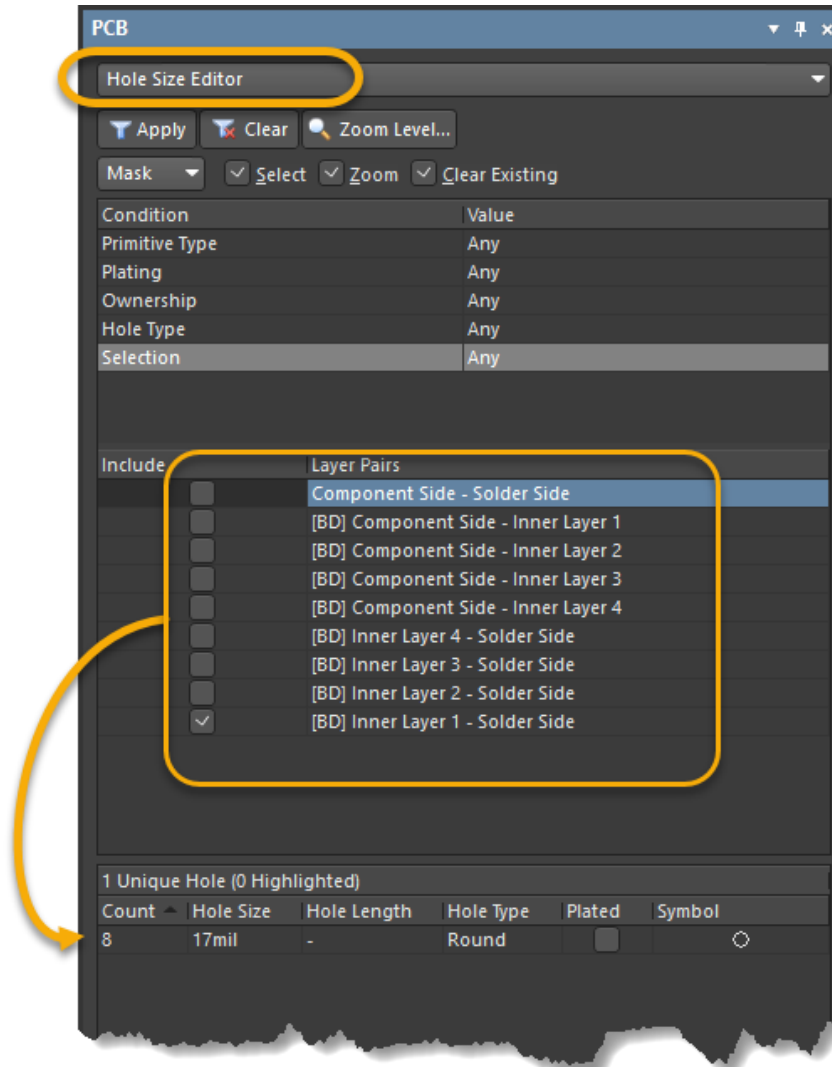

Figure 13. Hole Size Editor for BD Vias
28. To see all back drills from the design, open the *PCB* panel and select the *Hole Size Editor*. As for the other views from the *PCB* panel, you can jump and mask individual objects by selecting and deselecting the different objects, Figure 13.